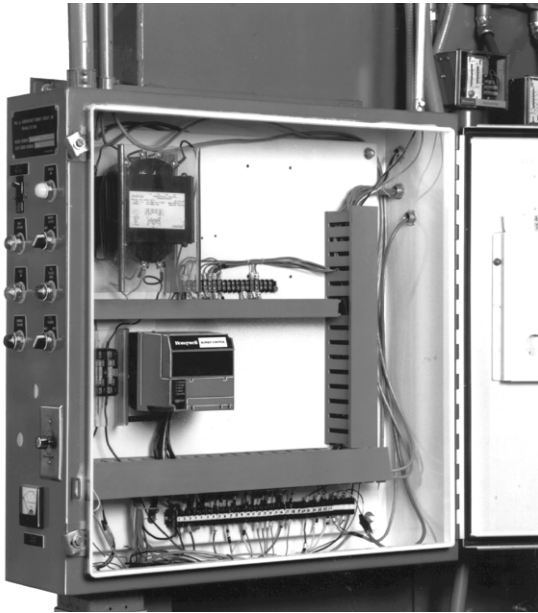

Fig. 8. Electrical panel installation.
1. Mount the RM7824A vertically, see Figs. 8 or 9, or mount horizontally with the knife blade terminals pointing downward. When mounted on the Q7800A, the RM7824A must be in an electrical enclosure.